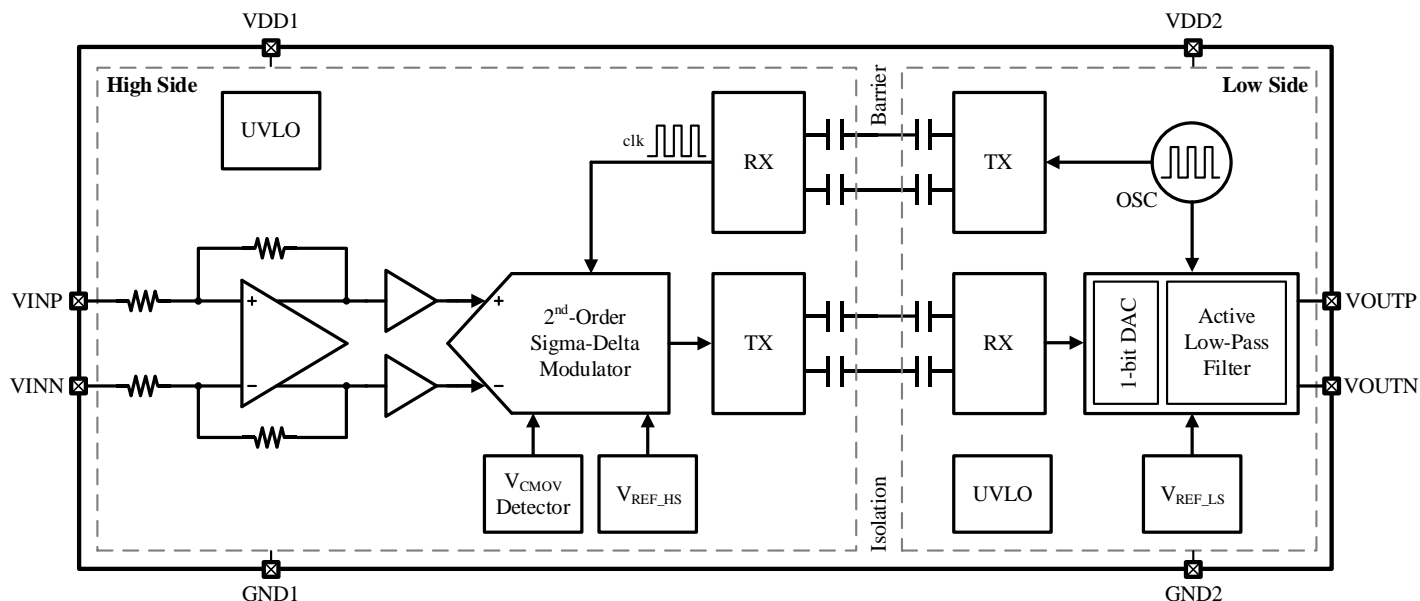

Figure 9-1 Functional Block Diagram of CA-IS1300B25G-Q1
The CA-IS1300B25G-Q1 devices are high-precision isolated amplifiers designed for shunt-resistor-based current sensing. The functional block diagram of this device is shown in Figure 9-1. At high side, the fully differential amplifier pre-amplifies the measuring voltage across a shunt resistor and then drives a 2nd-order Sigma-Delta ($\Sigma\Delta$) modulator. This modulator converts the analog signal to a digital bitstream. For transmission across the SiO₂-based isolation barrier, the digital stream is further modulated with a high-frequency carrier using a simple on-off keying (OOK) modulation scheme. The receiver (RX) recovers the modulated signal to the original digital bitstream at low side. After processed by a 1-bit digital-to-analog converter (DAC), the digital bitstream is sent to an active low-pass filter to produce the analog output. For synchronization of the whole chip, the clock is generated at low side and sent back to high side ensuring that all clocks come from one source.